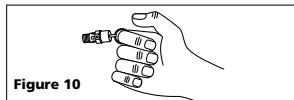

Figure 10
- Pull ring on safety valve and allow the ring to snap back to normal position (See Figure 10). This valve automatically releases air if the tank pressure exceeds the preset maximum.